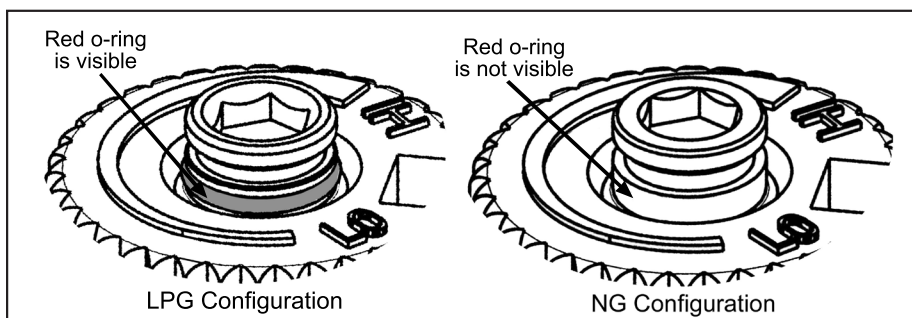

Figure 14: O-ring on valve screw.
- g) Verify that if the conversion is from NG to LPG, the screw must be re-assembled with the red o-ring visible (refer to Figure 14). If the conversion is from LPG to NG, the red o-ring of the screw must not be visible.